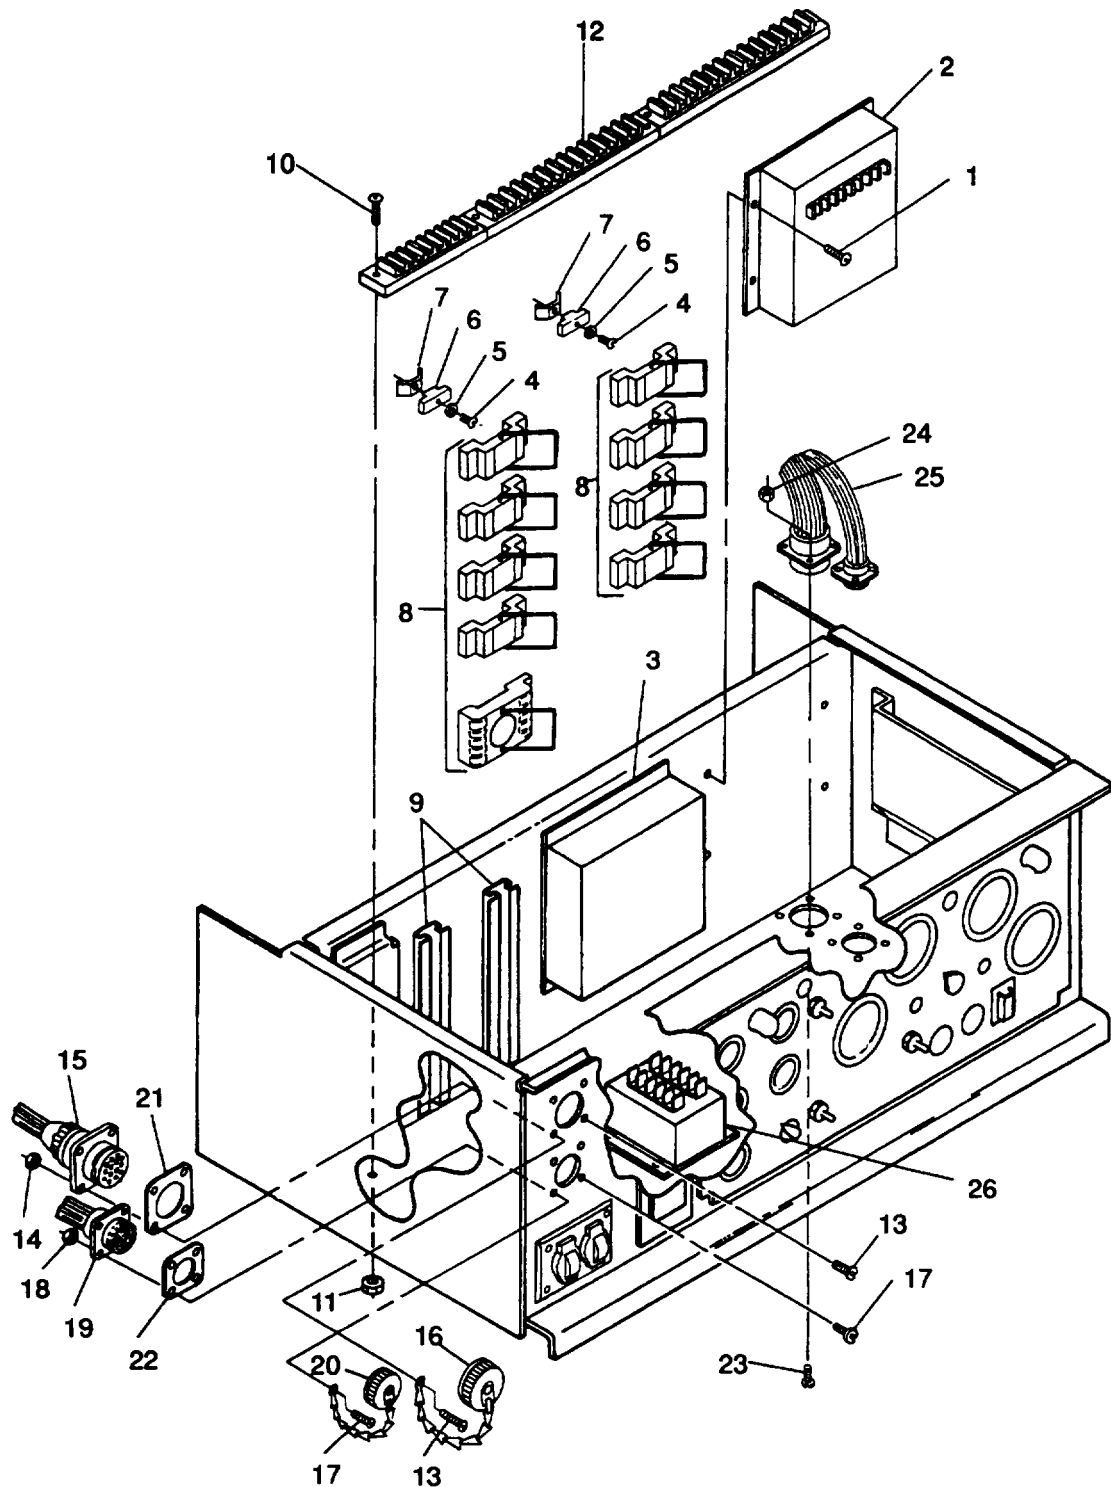

FIGURE 4-1. Control Box Components
- (1) Frequency regulation shall not exceed 1/4 of 1 percent of rated frequency.
- (2) Frequency short-term stability (30 seconds), frequency will remain constant within a band width equal to 1/2 of 1 percent rated frequency, without repetitive frequency variations, commonly called "hunting".
- (3) The generator set will reestablish stable engine operating conditions within 2 seconds of a sudden load change (within 1 second for 400 Hz unit). The maximum transient frequency change above or below (overshoot or undershoot) the new steady state frequency shall not be more than 4 percent of rated frequency (not more than 1-1/2 percent for 400 Hz unit).
- n. If the above criteria is not met, adjust the governor control unit (3, FIGURE 4-1) in accordance with paragraph 4.2.2.
- (1) Turn OVERSPD control potentiometer clockwise one turn for each hertz generator set shut down prior to lower frequency limit.
- (2) Activate OVERSPD RESET switch.
- (3) Repeat steps h and i.
- q. Set multimeter for DC volts and connect to terminals 11 and 12 of governor control unit (3, FIGURE 4-1).
- (1) Turn GOV GAIN potentiometer to its full clockwise position.
- (2) Momentarily actuate and turn off LOAD switch on control panel.
- (3) Observe strip chart on recorder for frequency oscillation (hunting). If required, slowly turn GOV GAIN counterclockwise until frequency oscillation disappears.
- f. Remove screws (4, FIGURE 4-1), washers (5), insulators (6), and clips (7).
- g. Tag and remove sockets (8) from tracks (9).
- h. Remove screws (10) and nuts (11) to free terminal boards (12).
- i. Tag and disconnect electrical leads from AC voltage regulator (2) and governor control unit (3).
- k. Tag and disconnect electrical leads to CONVENIENCE RECEPTACLE (20), GROUND FAULT CIRCUIT INTERRUPTER (23), and connector to malfunction indicator panel (27).
- m. Remove screws (13 and 17, FIGURE 4-1), nuts (14) and (18), caps (16) and (20), diagnostic connector (15), parallel connector (19), and gaskets (21) and (22) from control box panel.
- n. Remove screws (23) and nuts (24) from harness connectors and remove harness assembly (25) from control box.
- a. Position control box wiring harness assembly (25, FIGURE 4-1) in control box.
- b. Secure harness connectors to control box with screws (23) and nuts (24).
- c. Install gaskets (21) and (22), diagnostic connector (15), parallel connector (19), and caps (16) and (20) in control box panel with screws (13) and (17), and nuts (14) and (18).
- f. Connect electrical leads, as tagged during removal, to watt transducer (40), load measuring unit (69), reverse power relay (49), permissive paralleling relay (51), resistor-diode assembly (71), short circuit/overload relay (47), frequency transducer (38), over/under voltage relay (45), DC CONTROL POWER circuit breaker (35), BATTERY CHARGER FUSE assembly (32), OVERSPEED RESET switch (10), FREQUENCY SELECT switch (14), REACTIVE CURRENT ADJUST rheostat (3), LOAD SHARING ADJUST rheostat (7), and shunt (43). Remove tags.
- g. Connect electrical leads to AC voltage regulator (2, FIGURE 4-1) and governor control unit (3). Remove tags.
- h. Secure terminal boards (12) to control box with screws (10) and nuts (11).
- i. Position sockets (8) on tracks (9) as tagged on removal.
- j. Secure sockets (8) to tracks (9) with clips (7), insulators (6), washers (5), and screws (4). Remove tags.
- f. Set multimeter for DC volts and connect positive lead to terminal 11 of load measuring unit (26, FIGURE 4-1) and negative lead to terminal 12.